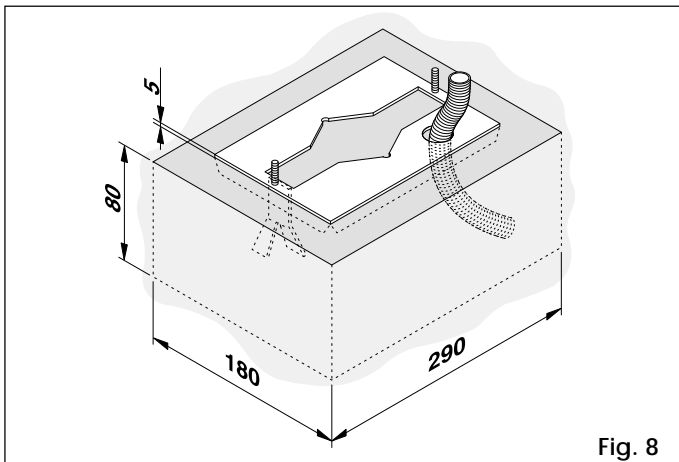

Fig. 8
- 3) Prepare a foundation plinth as shown in Fig. 8 and install the base plate providing one or more conduits for electrical cables. Use a level to check that the plate is perfectly horizontal and wait for the cement to set.